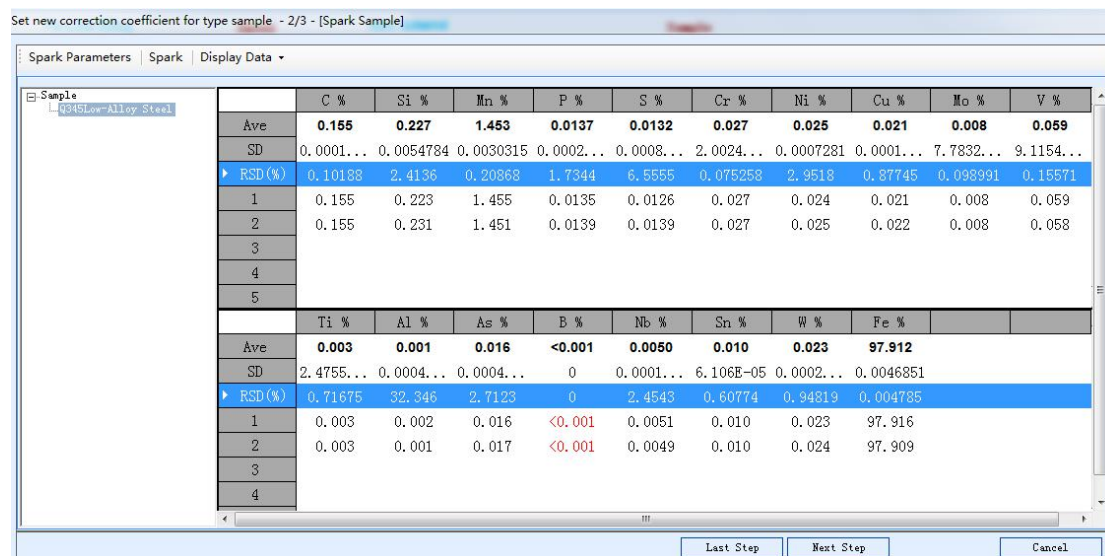

Figure 4-26 Sparking the sample
Step 5 Enter the sparking page. According to the sample information listed on the left, place the selected sample on the spark stand. Click "Spark" to analyze the sample, as shown in Figure 4-26: